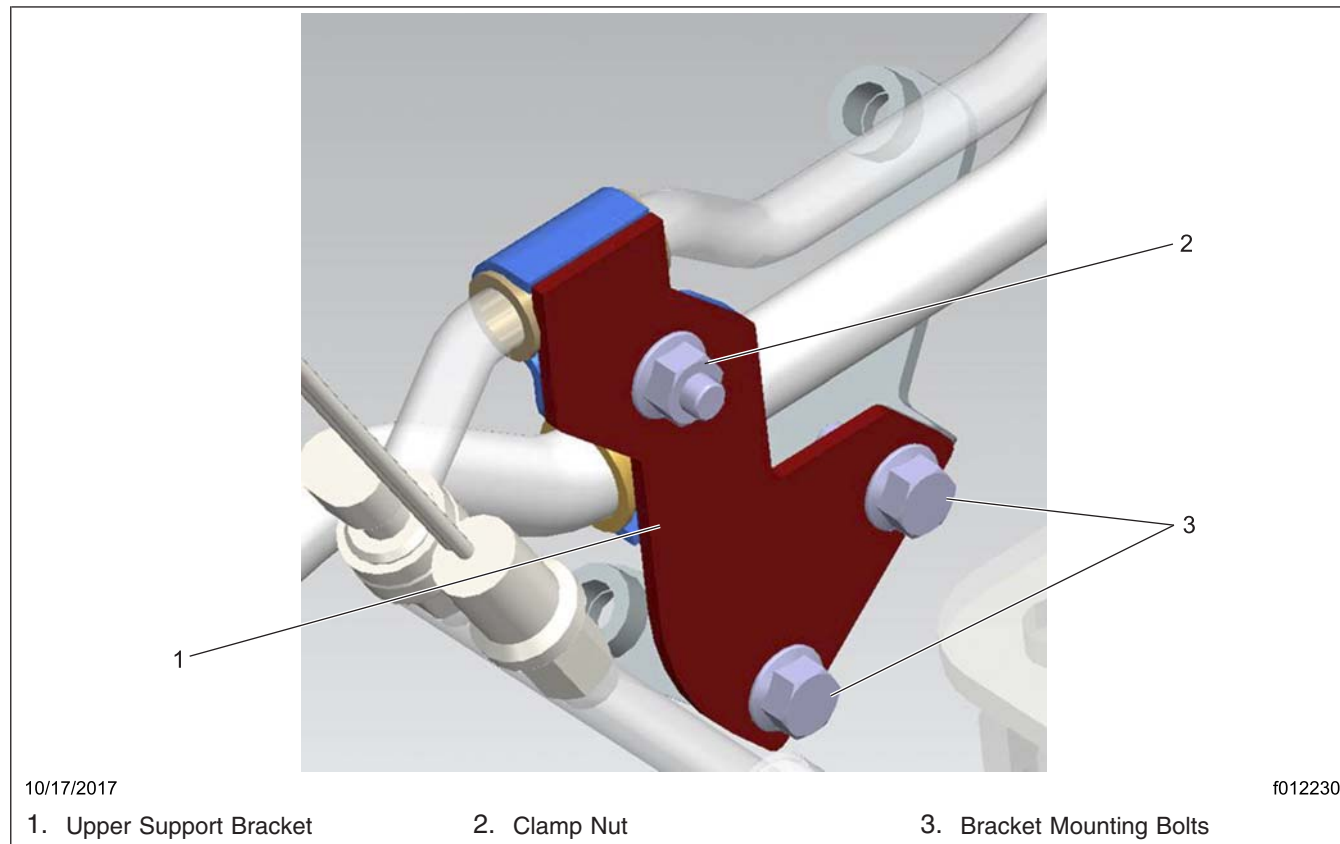

Fig. 4, A/C Refrigerant Line Upper Support Bracket Installation
17. Install the new A/C refrigerant line upper support bracket with supplied mounting bolts. See **Fig. 4**. Hand tighten.